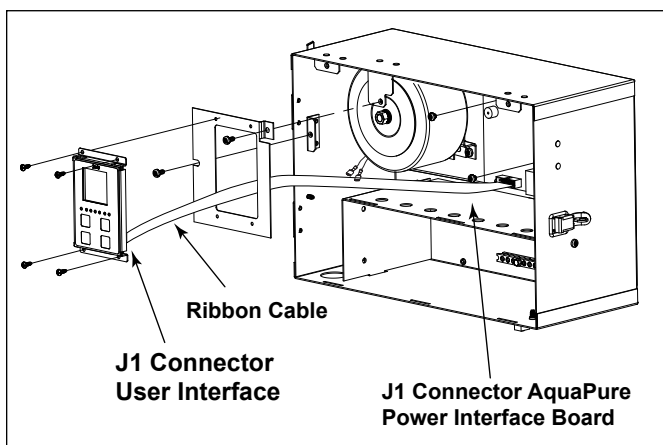

Figure 8. Chlorine Generator User Interface Installation
3. Remove the top two (2) screws that secure the cover plate to the control center. Remove the cover plate. See Figure 8.
4. Remove the four (4) screws that secure the user interface assembly to the mounting bracket. Remove the user interface.
5. Disconnect the ribbon cable (16-pin J1 connector) from the back of the user interface board. See Figure 8.